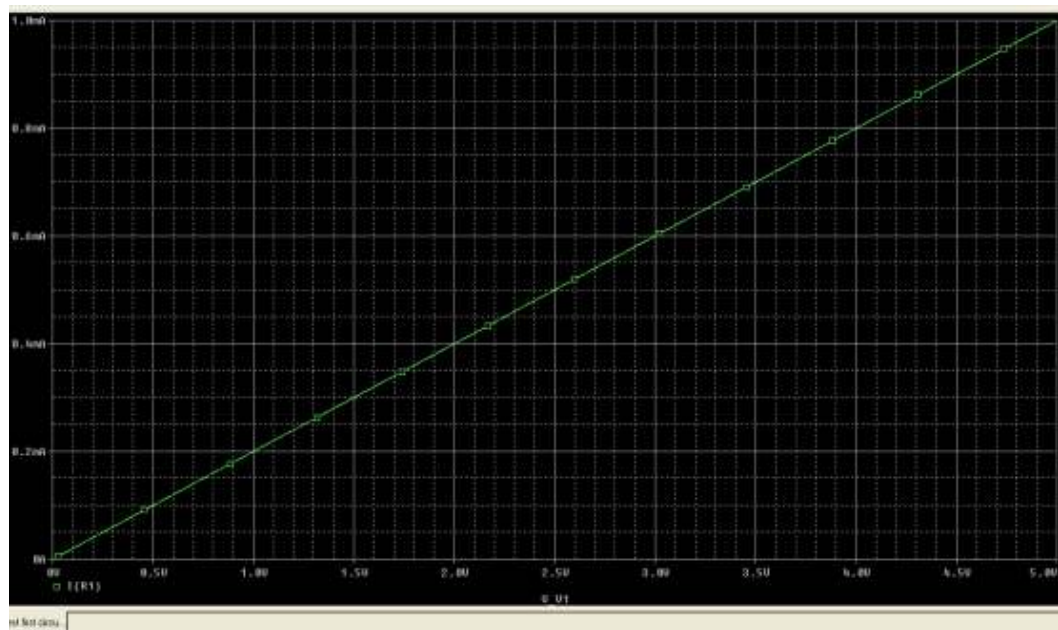

Figure 12 – DC Sweep waveform
- g. Click Ok. Follow Procedure c and d to run the simulation again. You should see the simulation waveform as shown in Figure12. **Based on the waveform, what principle are we verifying?**